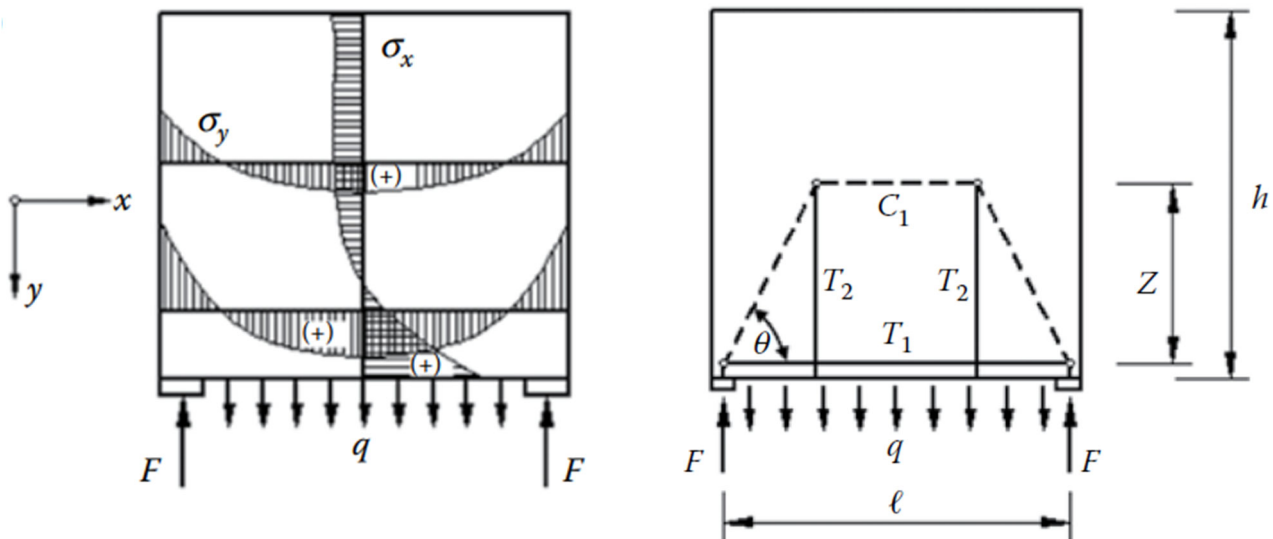

Figure 1. A simply supported beam carrying a uniformly distributed load.
- (i) A simply supported beam carrying a uniformly distributed load (Figure 1). (10 marks)